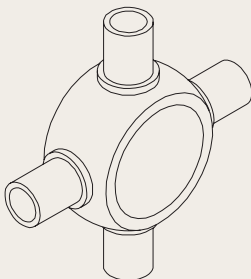
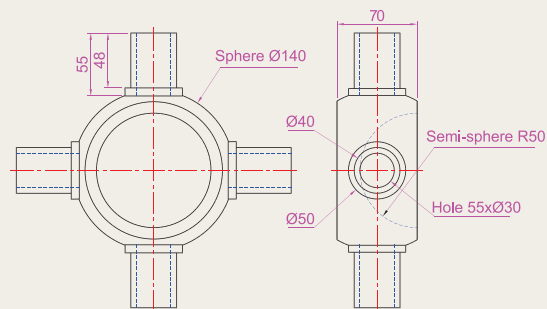

Fig. 13.13 Exercise 2
Fig. 13.14 Exercise 2 – working drawings
- Using the tools **Sphere**, **Box**, **Union** and **Subtract** and working to the dimensions given in Fig. 13.14, construct the 3D solid model as shown by the isometric drawing in Fig. 13.13.